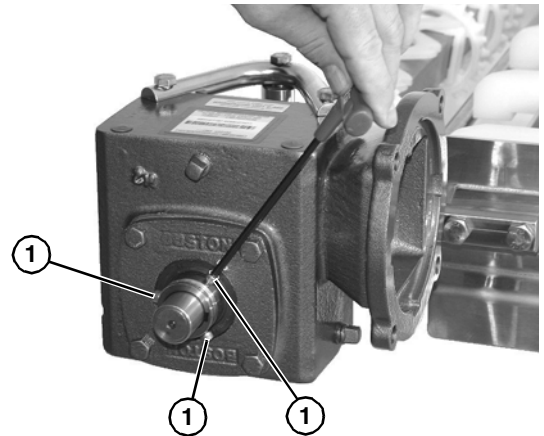

Figure 55
3. Using a hex wrench, loosen the allen head screws (Figure 55, item 1) that connect the gearmotor to the drive spindle. Repeat on opposite side of gearmotor.